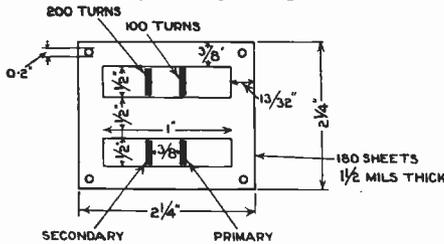

Fig. 15.
The core plates of the transformer in question are  $1\frac{1}{2}$  mils thick and have the other dimensions shown in Fig. 15. This particular transformer had no air gap  $\delta l$ .
This is a general expression for "a" for all transformers using the core stamping shown in Fig. 15, both with and without air gap and for different spacing "t" between primary and secondary. The permeability  $\mu$  depends upon frequency, as has already been pointed out. The last equation can therefore be more conveniently put into the following form where (32) and (33) are used for  $\mu$ .